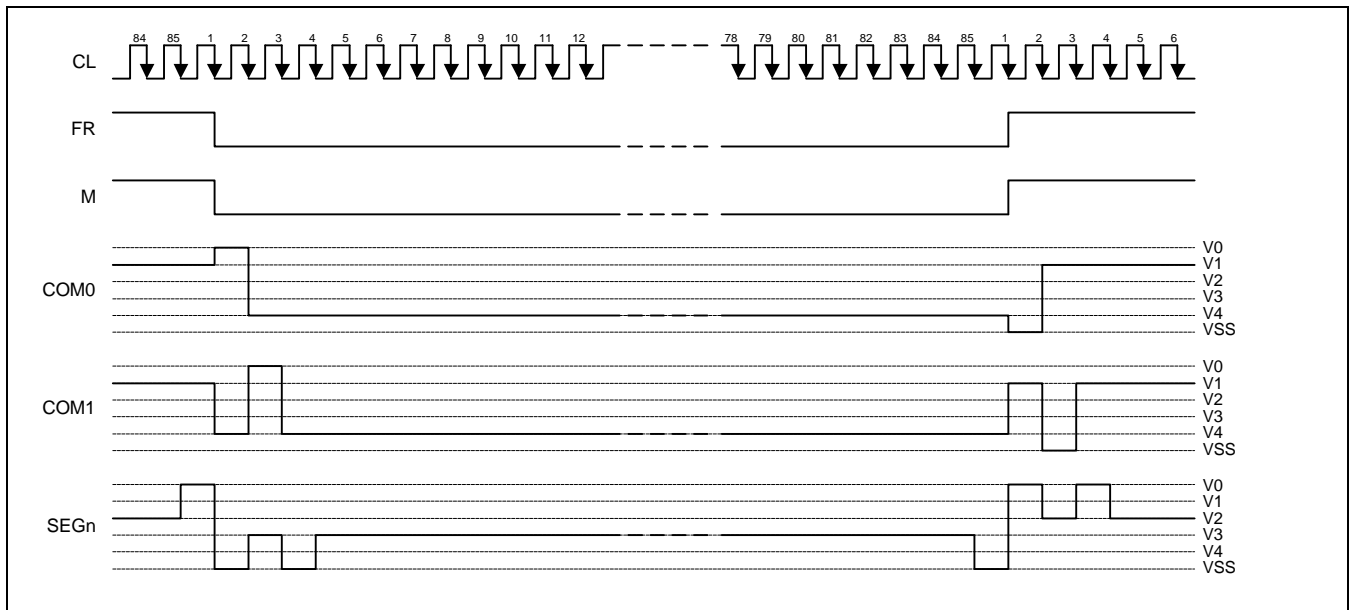

Figure 10. 2-frame AC Driving Waveform (Duty Ratio = 1/85)
This circuit generates some signals to be used for displaying LCD. The internal display clock, CL, generated by oscillation clock, generates the clock for the line counter and the signal for the display data latch. The line address of on-chip RAM is generated in synchronization with the display clock (CL) and the display data latch circuit in synchronization latches the 132-bit display data with the display clock. The display data, which is read to the LCD driver, is completely independent of the access to the display data RAM from the microprocessor. The display clock generates an LCD AC signal (M) which enables the LCD driver to make a AC drive waveform, and also generates an internal common timing signal and start signal to the common driver. The frame or the line changes the phase of M by setting internal instruction. Driving waveform and internal timing signal are shown in figure 10.